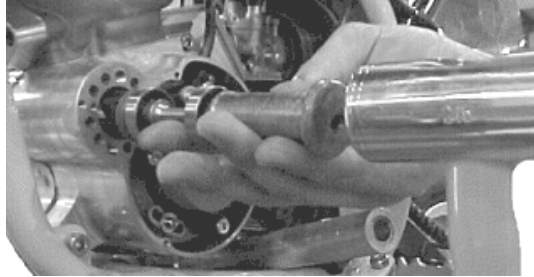

Figure 44
15. Using a liberal amount of grease on the outside seal, bearings and inside of case, reinstall bearing assembly by using a 0.500" ID by 1.000" OD steel tube 2" long and tap on end of tube per figure 44.